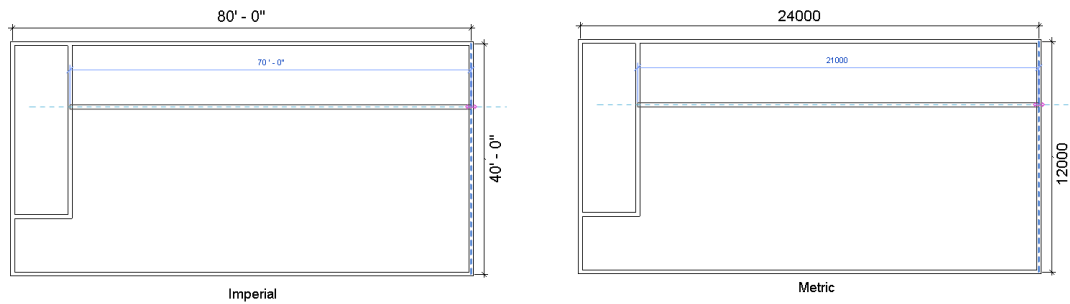

Figure 3-68 Sketching the second interior wall
4. Press SHIFT and move the cursor towards the right near the right exterior wall segment. Now, click to specify the location of the endpoint of the wall segment; the second interior wall segment is sketched, as shown in Figure 3-68.